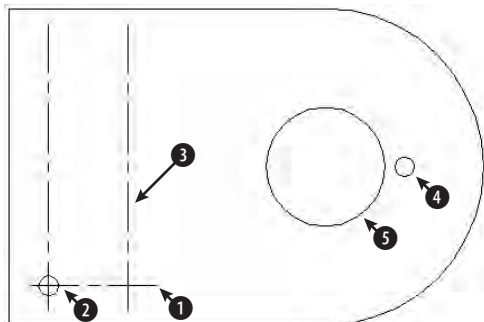

Figure 10-6: A partially completed mounting bracket
2. Save the file as `ab10-02.dwg` in your AutoCAD Bible folder. It looks like Figure 10-6. OSNAP should be on. Set center and intersection running object snaps.
4. Click the Select Objects button of the Array dialog box. In the drawing, pick the horizontal centerline 1 in Figure 10-6 and then press Enter. You return to the dialog box.
10. Click the Select Objects button in the Array dialog box. In the drawing, pick the circle 2 in Figure 10-6 and then press Enter.
12.  Click the Pick Both Offsets button. In the drawing, pick the center of circle 2 and the intersection of centerlines near 3 in Figure 10-6. (You can also pick the intersection of centerlines at the center of circle 2. If necessary, press Tab until you get the object snap that you want.)
14. To create a six-hole bolt circle, pick the hole ④ in Figure 10-6.
17.  Next to the Center Point text boxes, click the Pick Center Point button. In the drawing, pick the center of the large circle at ⑤ in Figure 10-6.